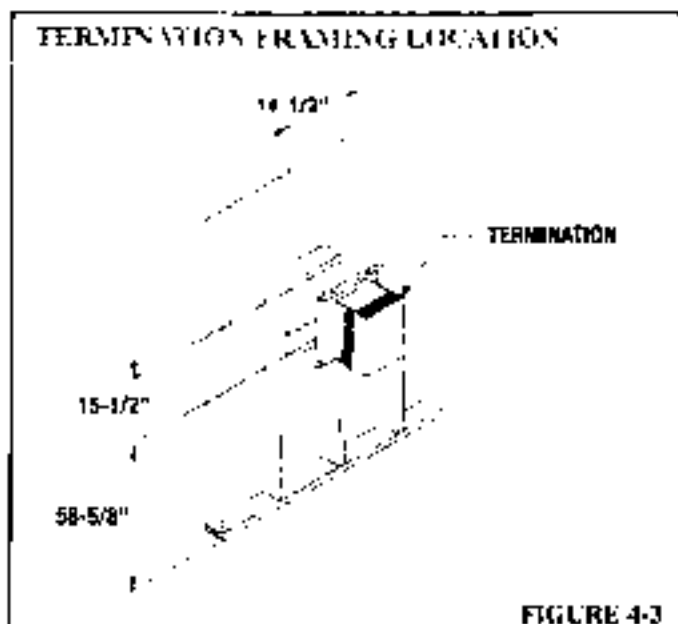

FIGURE 4-3
- 3) Locate the position where the vent passes through the wall and Frame a 15-1/2" x 14-1/2" opening for the termination. See figure 4-3 for framing location and page 32 for restrictions.